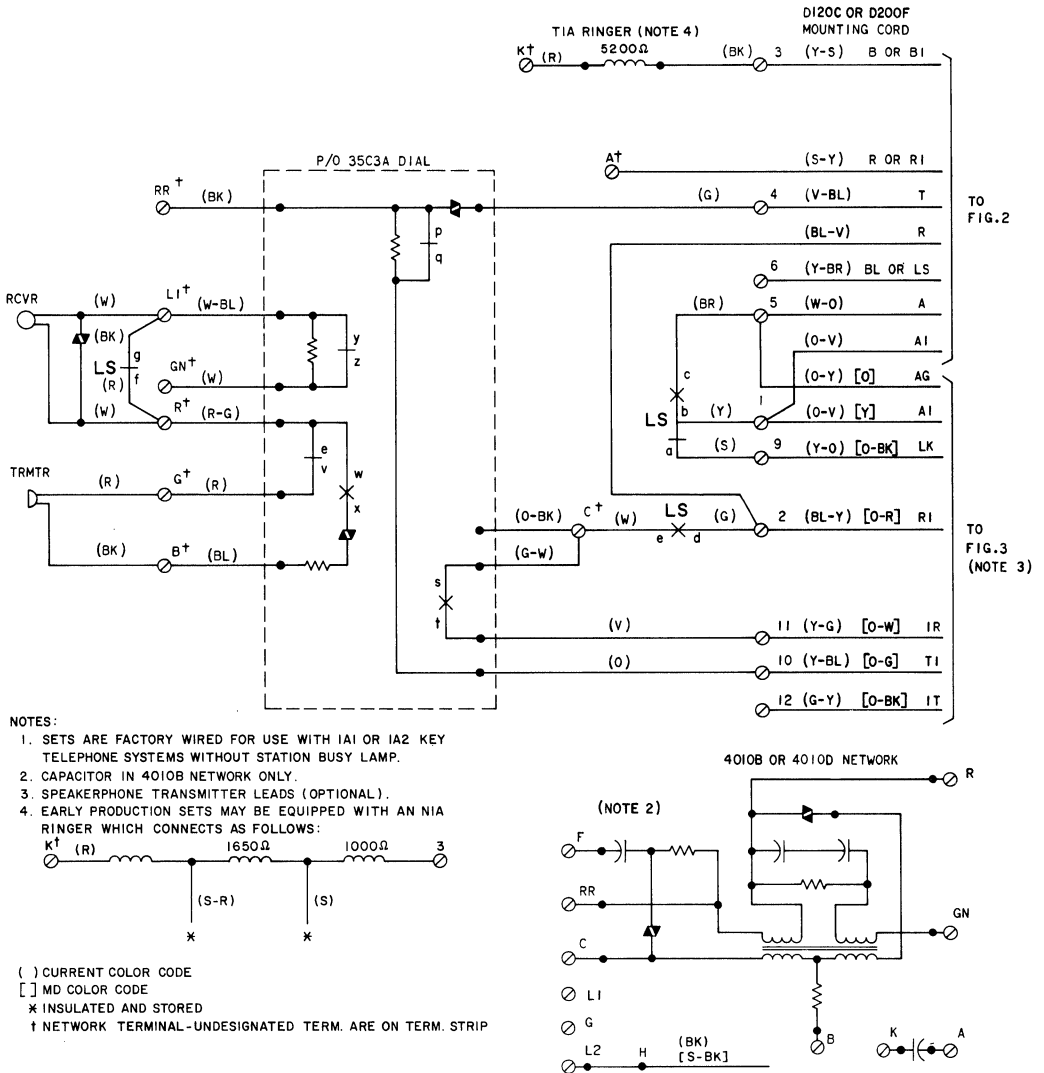

Fig. 1—2630D and 2631D Telephone Set, Connections
1.01 This section contains information for the 2630DA (MD) or 2630DAM (18-button) and 2631DA (MD) or 2631DAM (30-button) (Fig. 1 and 2) telephone sets. These sets may be equipped with different modular key arrangements. The telephone sets will accommodate 635-type or 658A keys, 76A lamp sockets, and/or a 679A (MD) internal transmitter.
- Revise Fig. 1, 2, 3, and 4 to update information.